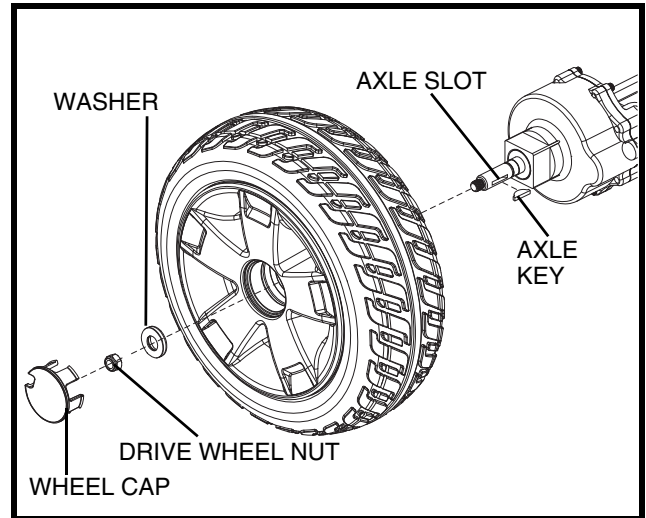

Figure 24. Solid Tire Wheel Removal
3. Remove the drive wheel nut and washer from the axle. See figure 24.